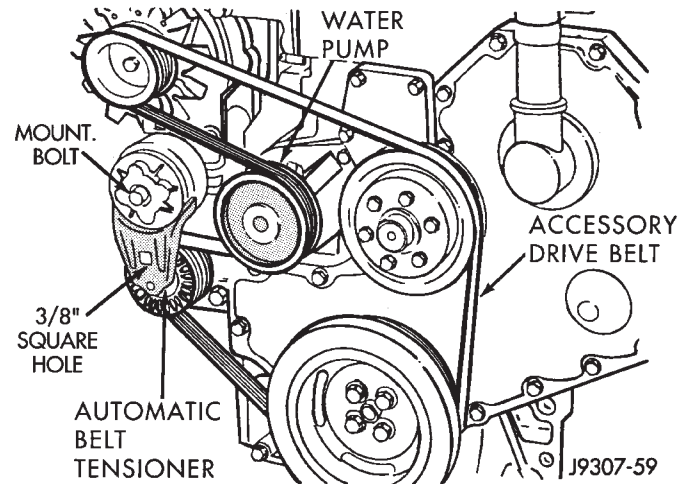

Fig. 16 Belt Tensioner—5.9L Diesel—Typical (non-A/C shown)
15) (Fig. 16). This belt tensioner will be used with all belt configurations, such as with or without power steering or air conditioning.